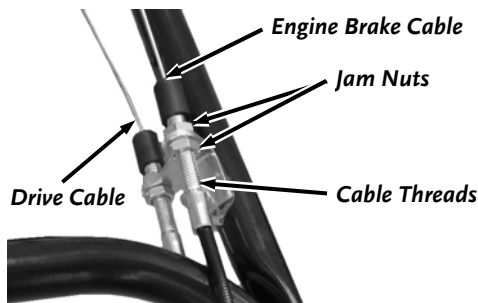

Figure 24
- Loosen the top Jam Nut and tighten the bottom Jam Nut to tighten the Cable (**Figure 24**).